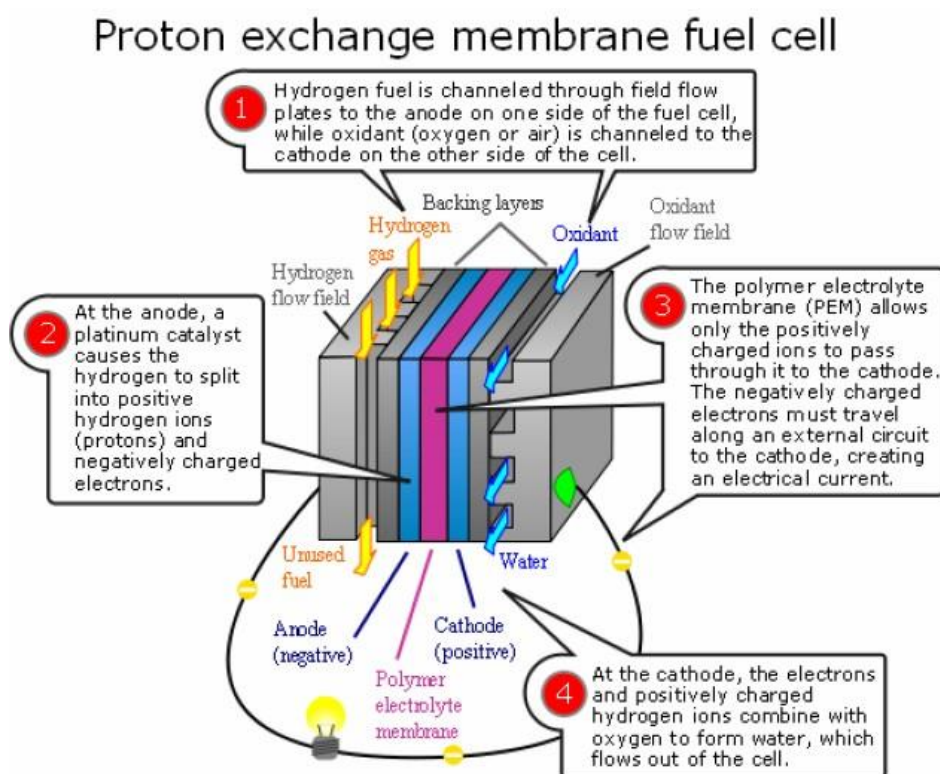

Figure 1.6. PEM Fuel Cell schematic
**3.1. The Proton Exchange Membrane Fuel Cell (PEMFC)** capitalizes on the essential simplicity of the fuel cell. The electrolyte is a solid polymer in which protons are mobile. The chemistry is the same as the acid electrolyte fuel cell of Figure 1.3. With a solid and immobile electrolyte, this type of cell is inherently very simple. These cells run at quite low temperatures, so the problem of slow reaction rates is addressed by using sophisticated catalysts and electrodes. Platinum is the catalyst, but developments in recent years mean that only minute amounts are used, and the cost of the platinum is a small part of the total price of a PEM fuel cell. The problem of hydrogen supply is not really addressed – quite pure hydrogen must be used, though various ways of supplying this are possible (Figure 1.6).